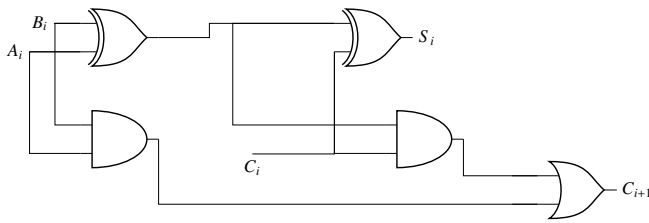

Fig. 3.27: Full Adder
44. Fig. 3.27 shows the  $i$ th full-adder block of a binary adder circuit.  $C_i$  is the input carry and  $C_{i+1}$  is the output carry of the circuit. Assume that each logic gate has a delay of 2 nanosecond, with no additional time delay due to the interconnecting wires. If the inputs  $A_i$ ,  $B_i$  are available and stable throughout the carry propagation, the maximum time taken for an input  $C_i$ , to produce a steady-